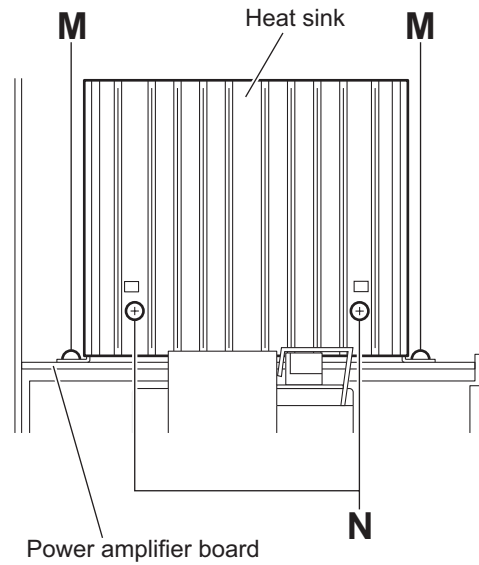

Fig.18
### 3.1.11 Removing the heat sink and heat sink B (See Figs.18 and 19)
- (1) From the top side of the main body, remove the two screws **M** attaching the heat sink on the power amplifier board. (See Fig.18.)
- (2) From the side of the power amplifier board, remove the two screws **N** attaching the heat sink. (See Fig.18.)